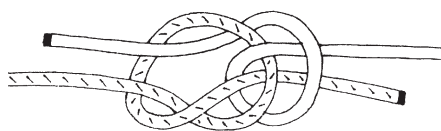

Fig. 1 Hanson bend
**K**notting Matters 84 published an article on the Hanson patent knot [1]. Drawing 12 showed the Hanson bend (fig. 1). The patent was awarded Hanson in 1987.